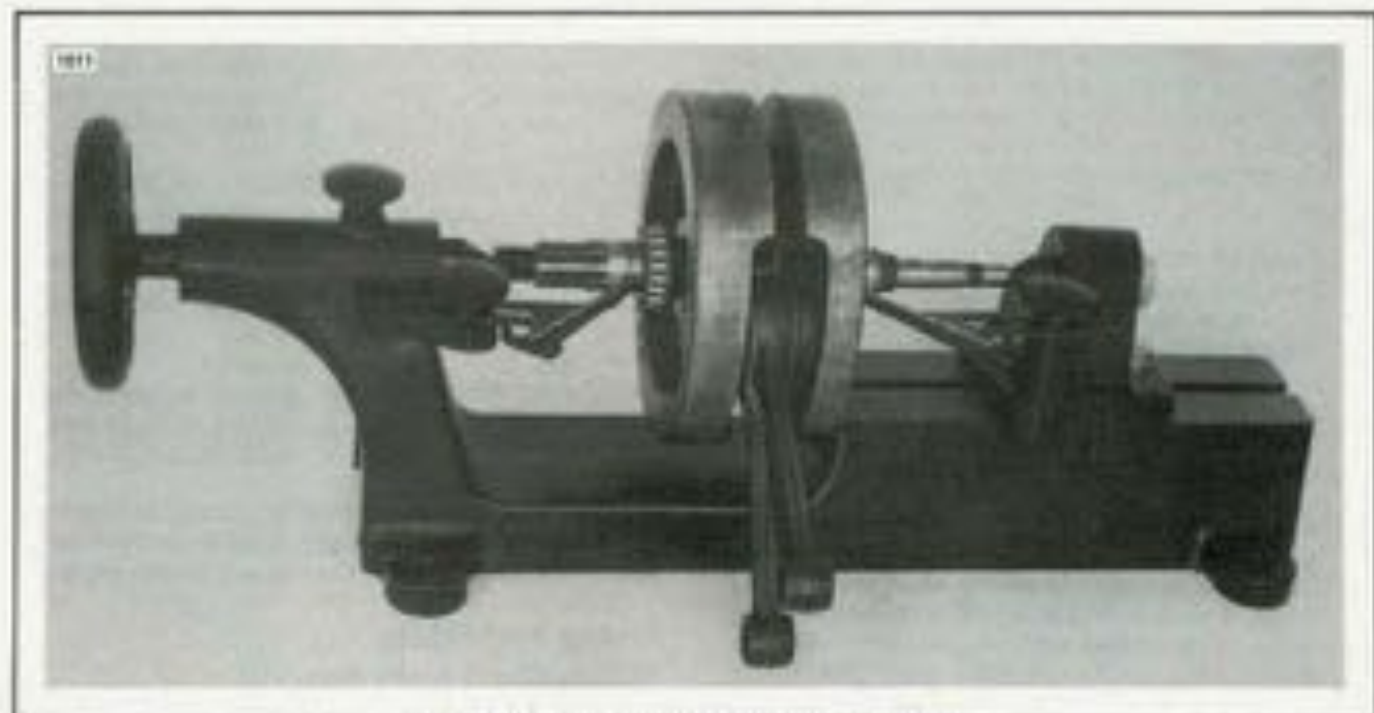

Figure 3-49. Truing Flywheels on Truing Stand
10. See Figure 3-49. When nut is fairly tight, install flywheel assembly in FLYWHEEL TRUING STAND, Part No. HD-96650-80. Adjust so centers are snug. Wheels must turn freely but shafts may not be loose in centers. If flywheel assembly is either loose or squeezed, indicators will not read accurately. Adjust indicators to take reading as near to flywheels as possible, so pointers read at about the middle of the scales.